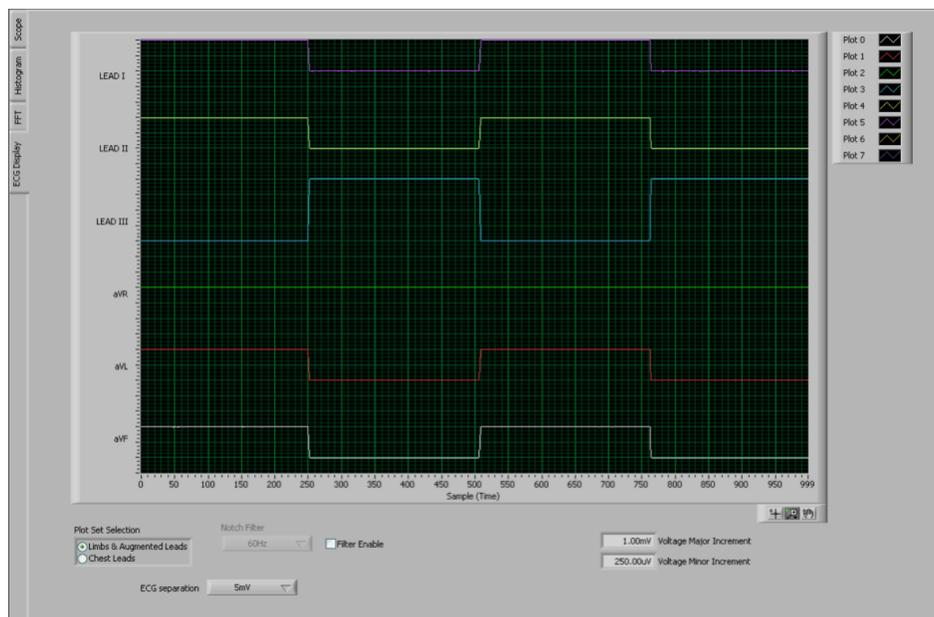

Figure 31. Example of Internal Test Signals Viewed on the ECG Display Tab
**Configuration Register 2** controls the signal amplitude and frequency of an internally-generated square wave test signal. The primary purpose of this test signal is to verify the functionality of the front-end MUX, the PGA, and the ADC. The test signals may be viewed on the *ECG Display* tab, as Figure 31 shows. Detailed instructions for using the *ECG Display* tab are provided in Section 3.5.4.